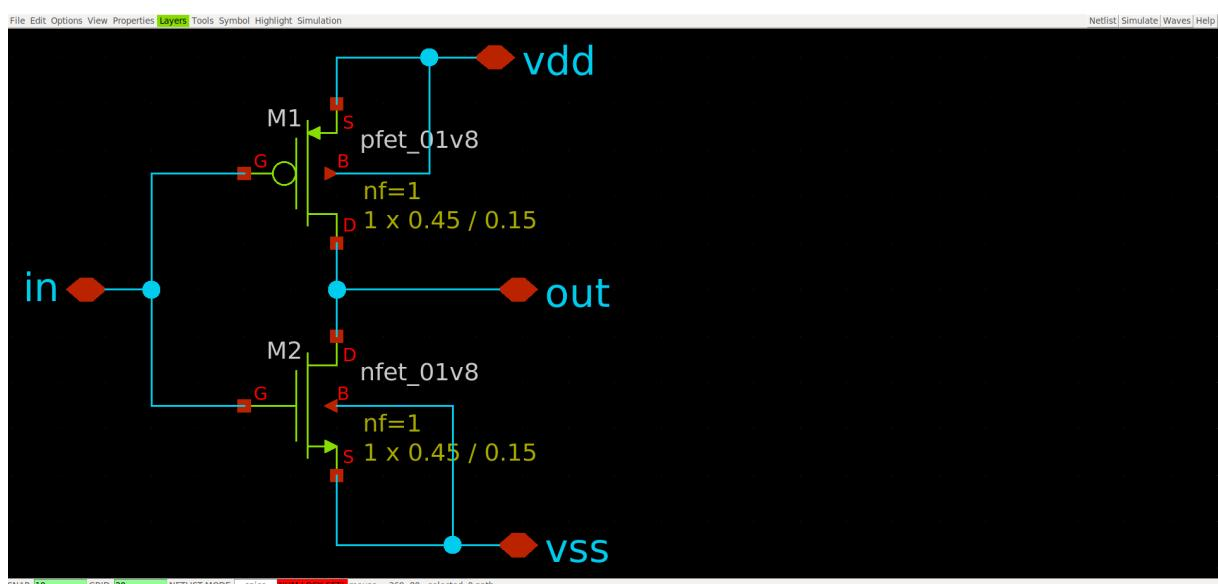
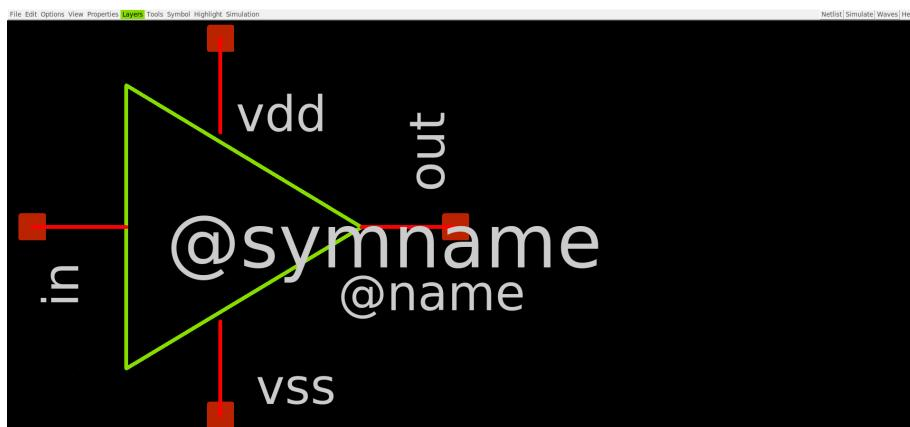

Figure 2: Inverter final schematic.
Figure 5: Inverter final symbol.
In this section you will generate the schematic of the inverter shown in Fig. 2.
- To make some **edits**, note that a pre-selection of the element with a left click is required (See Table 1). Set the device properties to those shown in the Fig. 2 (only a change in the **w** parameter is needed).
Once you obtain the design of Fig. 2, generate the symbol of the inverter shown in Fig. 5.
A new file named **inverter.sym** will be generated in the same folder than the schematic. Open it (open a new tab, click File -> Open and select **inverter.sym**) and try to obtain the symbol of the Fig. 5. The symbol editor is different than the schematic editor, because it allows to modify shapes and names. To make some edits, note that a pre-selection of the element with a left click is required. The shortcuts indicated in the table 2 can be taken into account; for example, for drawing a line, press **l** in your keyboard.